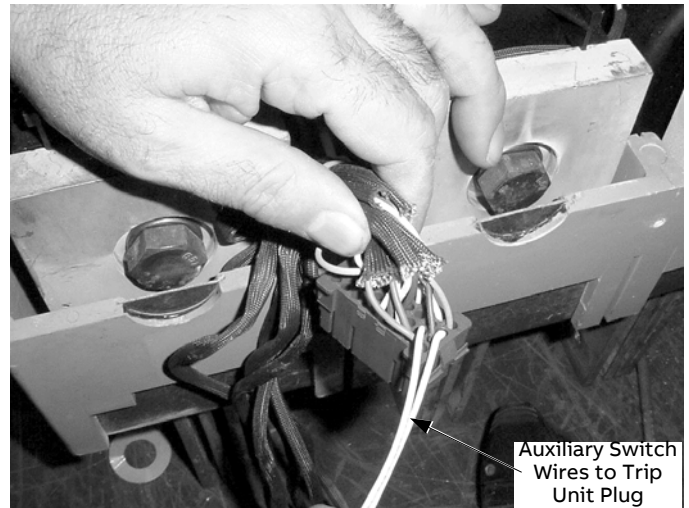

Figure 12. Auxiliary switch wires inserted into the trip unit plug.
13. Insert the two white wires in the small auxiliary switch cable into the trip unit plug in positions 31 and 34 (see the wiring diagram in Figure 6), as shown in Figure 12.